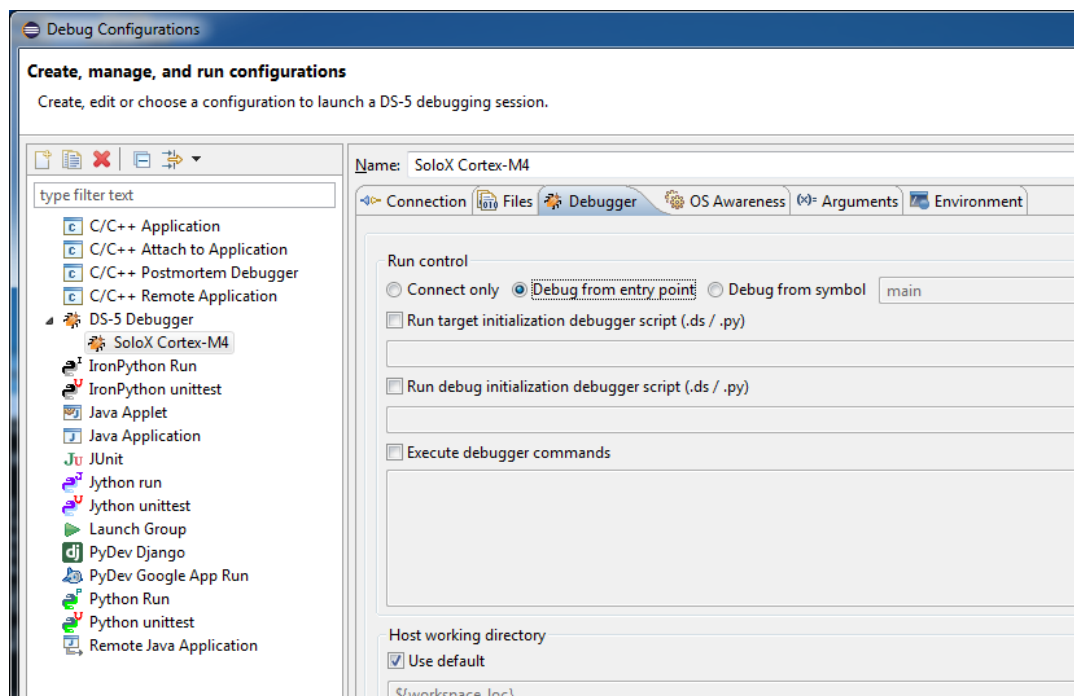

Figure 12 - Debug from entry point
7. Go to the “Debugger” tab and select “Debug from entry point” as shown Figure 12.